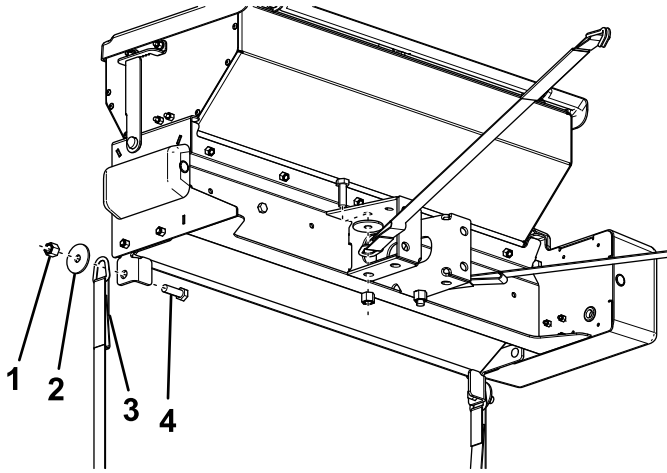

Figure 18
- Secure the ratchet straps to the spreader using 4 bolts (1/2 x 1-1/2 inch), washers (1/2 inch), and locknuts (1/2 inch) as shown in Figure 18.